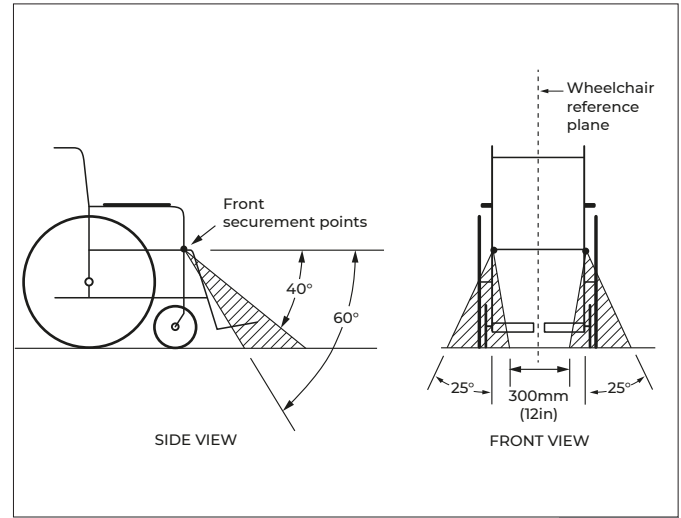

Figure 5
3. Ensure that the webbing of each tie-down is approximately the same length, and at an angle of around 40° to 60°, within the front view zone, (Fig. 5).